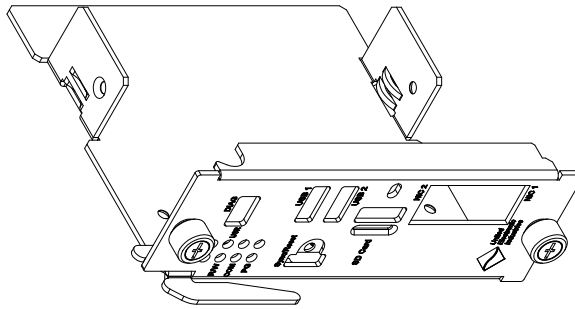

Figure 4-18 Isometric Diagram of CPU/POWER Module Carrier
STEP 5: Remove the upper CPU board from its carrier (see **Figure 4-18**):